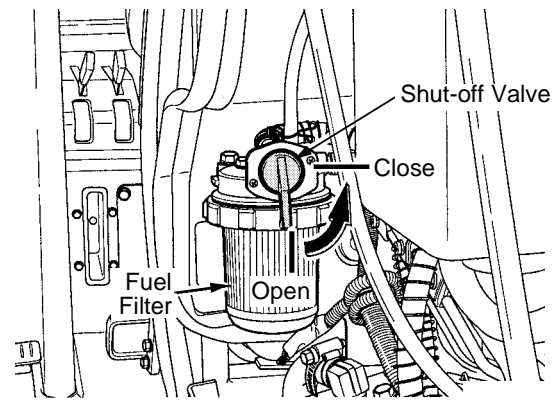

Figure 52
- Close the shut-off valve on the fuel filter. See Figure 52.